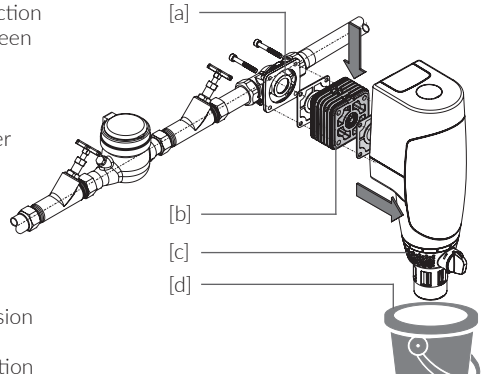

Fig. 6.1
- / the **CLEAR PRO CONEL** retrofit leakage protection MultiControl 3/4" - 1 1/4" [b] is installed between the connecting flange [a], which is installed in the potable water pipe, and the filter [c], see installation example (Fig. 6.1) or between the connection flange of a single or double softener **CLEAR PRO SOFT / CLEAR PRO SOFT TWIN** and the filter
- / the installation is to be carried out exclusively in potable water installations according to DIN 1988-200 behind the water meter system (Fig. 6.1)